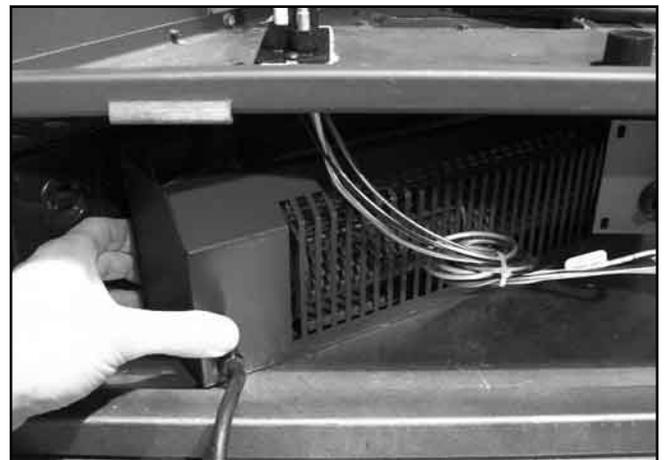

Figure 46. Placing Fan Kit Into DV36
3. Place fan in lower area of unit behind the controls (see Figure 46).